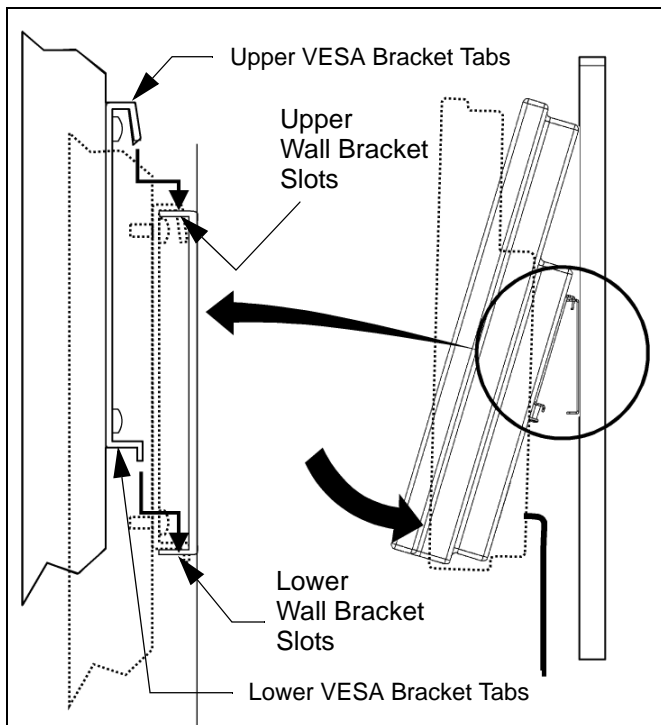

Figure 16: Mount Display
- Slowly release display bottom and allow VESA bracket lower tabs to rest against wall bracket. (see figure 16)
- Using two people, lift display upwards until VESA bracket lower tabs can slide over top of, and into, wall bracket lower slots. (see figure 16)
lower tabs are seated in wall bracket upper and lower slots. (see figure 16)